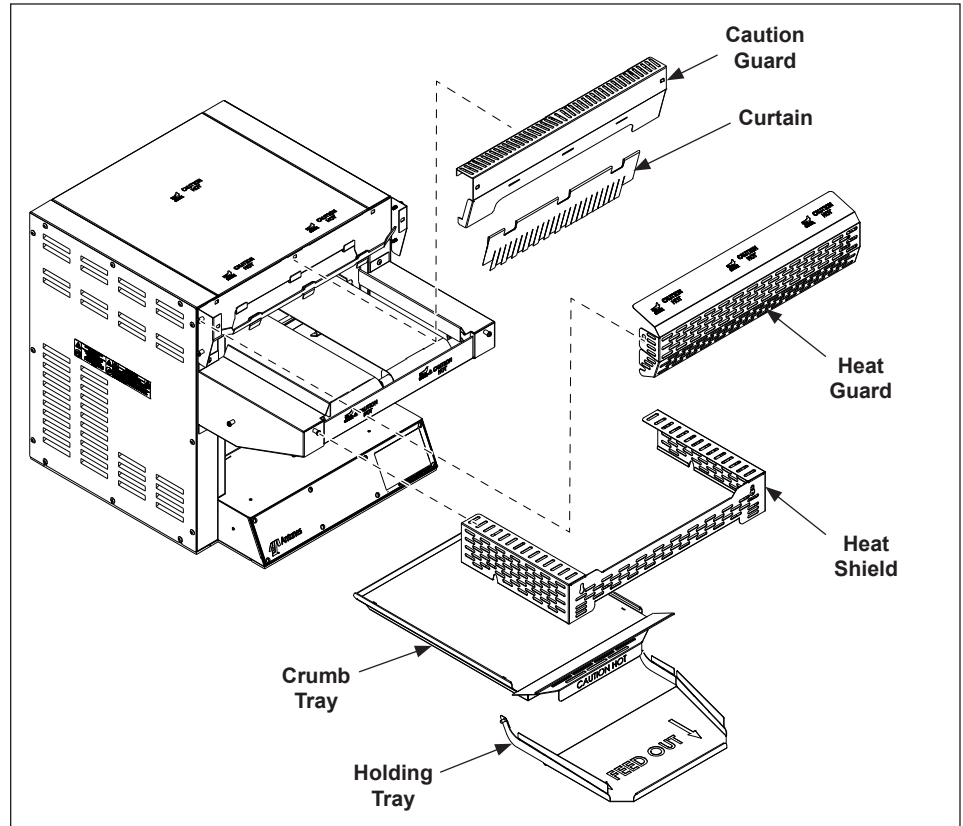

Figure 1. Components
5. Wipe the bun landing area and Skirt with a hot damp cloth (Figure 1).